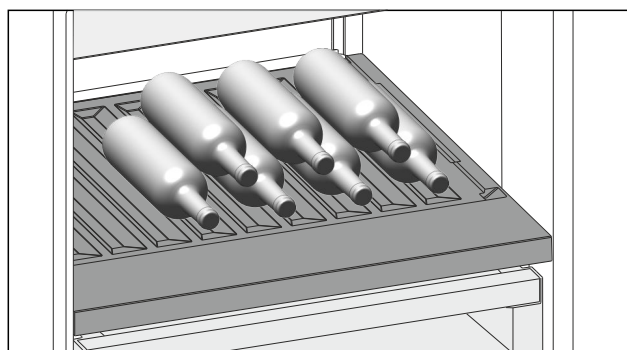

Fig. 139
- ▶ Place bottles in the back row with their bases against the back wall. (see Fig. 139)